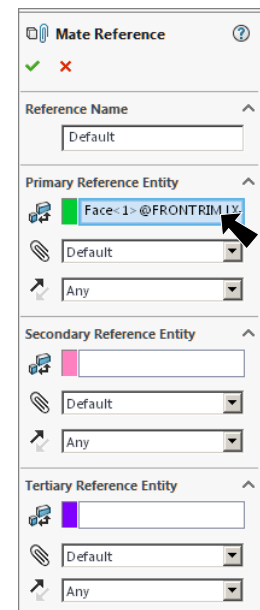

Fig. 7
Step 4. In the Mate Reference Property Manager click OK , **Fig. 7**.